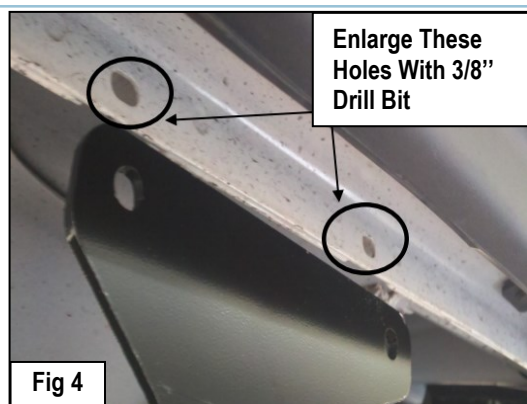

Fig 4
Note: Dodge Durango requires pinch weld holes used for installation to be drilled out to 3/8" and one additional hole to be drilled through the pinch weld in the rear of the vehicle, (Fig 4 & 7).
Install Driver Front Mounting Bracket to the J-Bolt using (1) M10 Large Flat Washer, (1) M10 Lock Washer and (1) M10 Hex Nut. Secure the Front Support Bracket to the outside of the pinch weld using (2) M8X1.25-20mm Hex Bolts, (4) M8 Flat Washers, (2) M8 Lock Washers and (2) M8X1.25 Hex Nuts. Do not tighten fully at this time, (Fig 4 & 5).